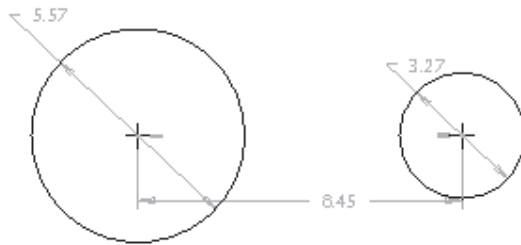

Figure 1-34 The two circles with weak dimensions and constraints
- Draw the sketch using the sketcher tools, refer to Figures 1-34 through 1-37.
Figure 1-34 shows the two collinear circles drawn using the **Create circle by picking the center and a point on the circle** button from the **Sketcher Tools** toolbar.